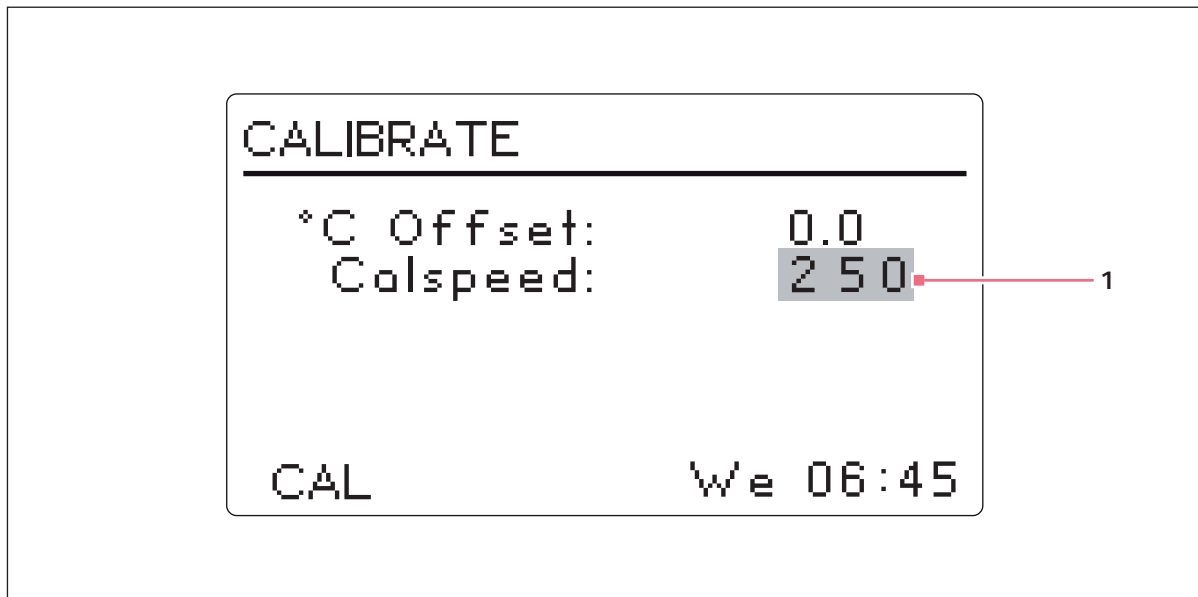

Fig. 5-16: Calibrate Screen
1. Use the Control Knob to enter the **CAL** screen (see Fig. 5-16 on p. 63).
The Calspeed function, which is set in the **CAL** screen (see Fig. 5-16 on p. 63), is used to calibrate the speed of the shaking mechanism. Calibrated at the factory, speed does not need to be recalibrated until a major operating component (e.g., drive belt) is changed.